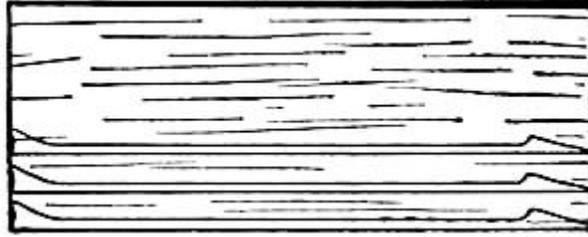

FIG. 234.—Shingle Arrows for Cross-bow.
**Shingle Arrows** are very good, as they shoot straight, and are so quickly made as to be easily replaced by a fresh lot when lost or broken. Mark them out as shown in Fig. 234, with the head at the thick edge of the shingle and the tail at the thin edge, and cut them out with your jack-knife. The head and tail are made flat on one side, so as to lie flat in the groove of the gun.